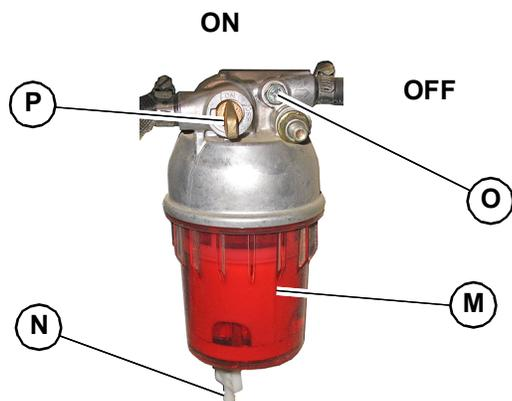

Fig. 141 – Water Separator
Models RT175/RT210: The water separator contains an indicator ring (M, Fig. 141) that floats on top of accumulated water. Under normal conditions, the ring sits at the bottom of the separator cup. If the ring is somewhere between the top and bottom the cup, water must be drained.
4. **Model RT250:** Inspect the water separator (Fig. 141) for the presence of water:
- b. Twist drain fitting (R) at the bottom of the water separator. Allow water to drain until flow stops. Twist drain fitting (R) back to its original position to close.
5. **Models RT175/RT210:** Inspect the water separator (Fig. 141) for the presence of water:
- If the indicator ring (M) is at the bottom of the cup, no action is required.
- If the indicator ring (M) is floating off the bottom of the cup, water is present and needs to be drained.
- b. Turn the fuel shut-off valve lever (P) on the water separator to the OFF position.
- c. Loosen drain plug (N) at the bottom of the water separator. Allow water to drain until indicator ring falls to the bottom of the cup.
- b. Turn fuel shut-off valve lever (P, Fig. 141) on the water separator to the OFF position.